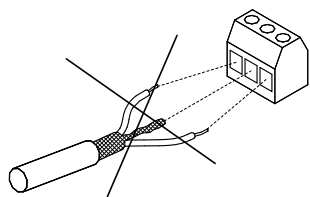

Fig. 43 Do not twist the screen ends
- Avoid terminating the screen by twisting the ends. See fig. 43. Use cable clamps or EMC screwed cable entries instead.